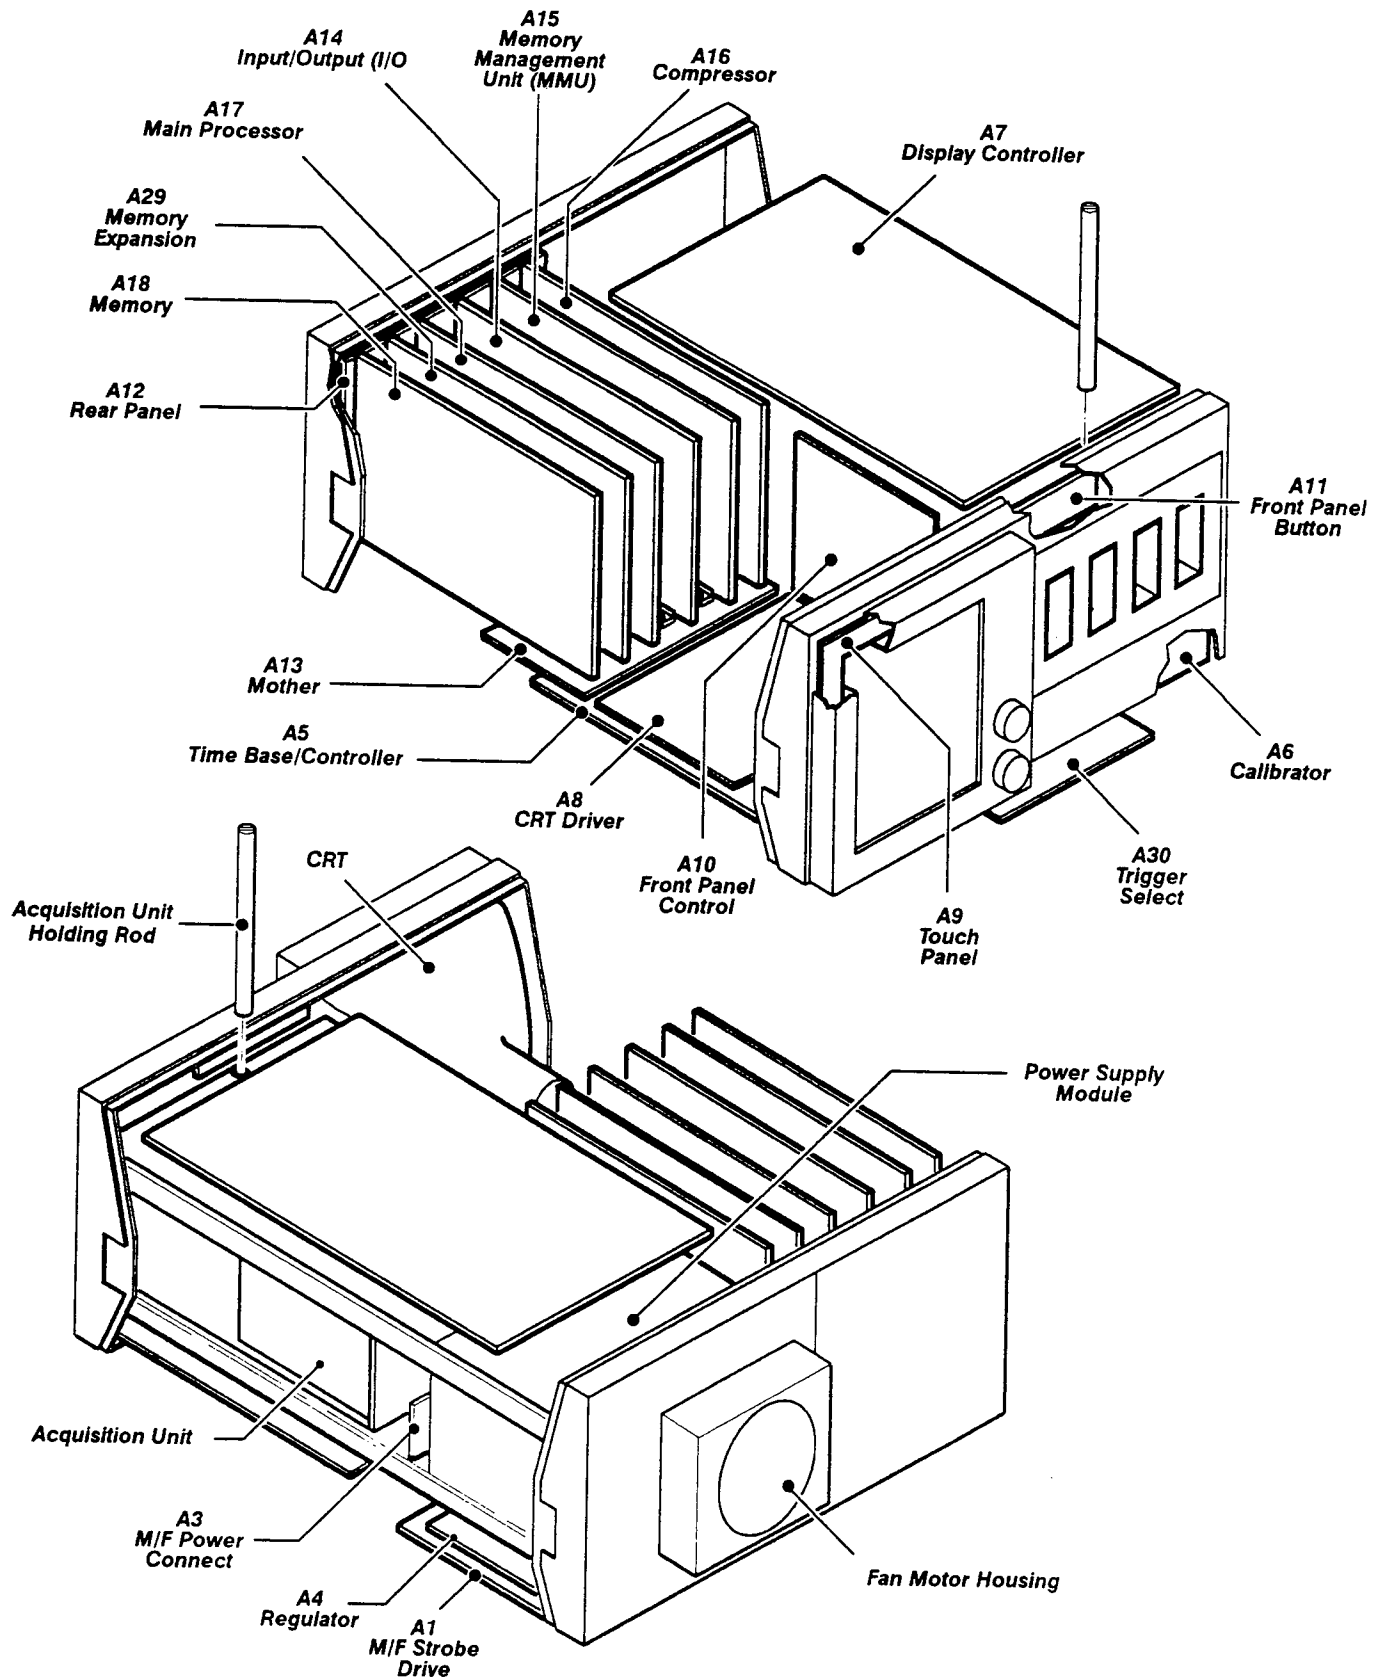
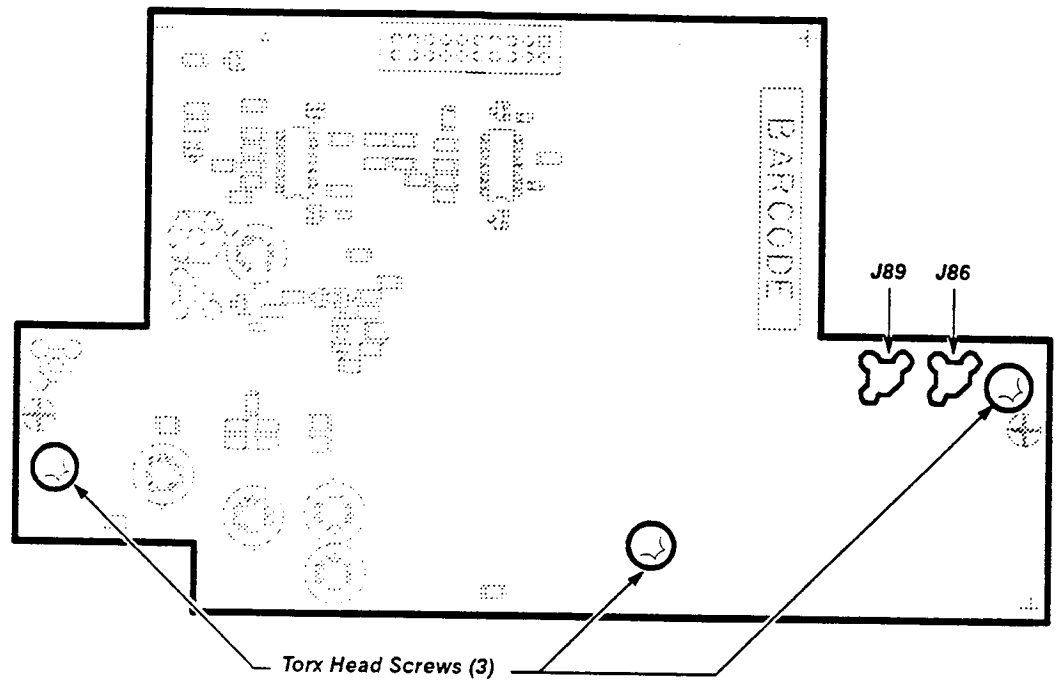

Figure 1, - Mainframe circuit board locations.
Figure 4, - Trigger Select circuit board A32.
- 4. Remove the long holding rod located on the top of the instrument in front of the Display Controller circuit board A7. The holding rod secures the Acquisition Unit into the instrument. Refer to Figure 1, for holding rod location.
- 8. Remove the three (3) Torx drive screws that secure the Trigger Select circuit board A32. The Trigger Select circuit board is located on the bottom of the instrument below the Acquisition Unit.
- 9. Disconnect coaxial cable connectors J86 and J89 from the Trigger Select circuit board. Note cable connector locations for later reassembly. Move the Trigger Select circuit board aside to allow J86 and J89 coaxial cables to be pulled through the grommets in the lower frame chassis. Refer to Figure 4 for J86 and J89 connector locations.